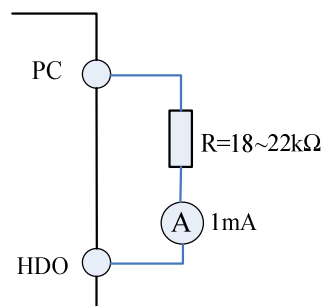

Figure 6
- When P.74=0 and P.64=1, the terminal HDO select FM function, wiring shown as figure 6, Which displays the output current or frequency of the inverter.
1. Wiring as figure 6 shown, and set P.64 at 1 and P.54 at 0. Calibrate the header for accessory variation.